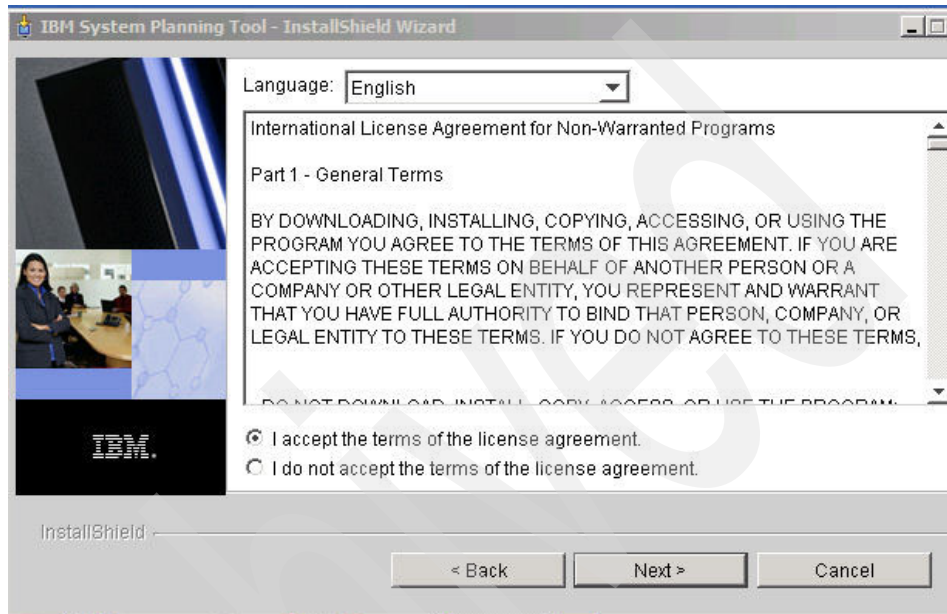

Figure A-9 SPT install accept license
4. Next comes the standard software license acceptance panel (Figure A-9). Click the **I accept** radio button and click **Next** to continue. For non-English speakers the license agreement is translated. Access translations from the pull-down menu.